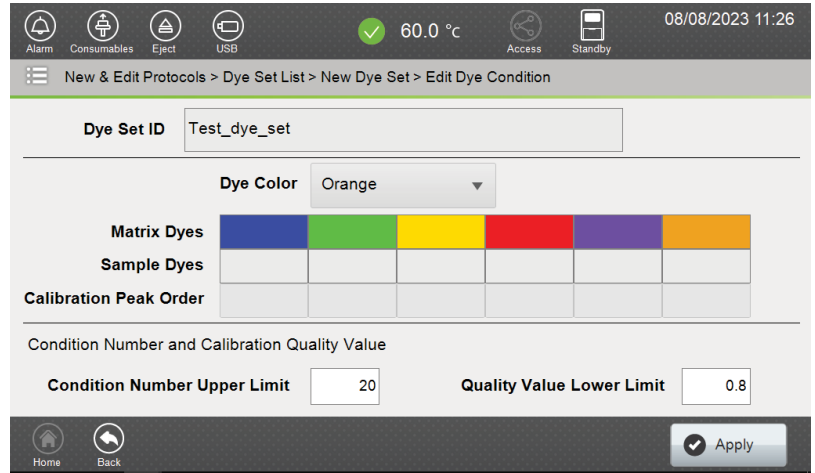

Figure 144. 'Edit Dye Condition' screen.
- Using the 'Dye Color' drop-down box, assign a dye color for the Size Standard (Figure 144).